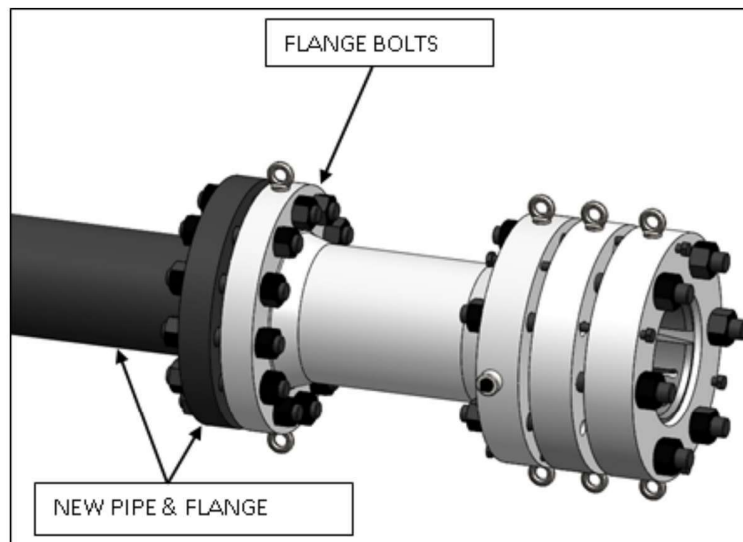

Figure 7
- a) Installing a riser connection, a blind flange, or a valve. Bolt the flanged end of the new piece of equipment to the Seal Flange Section of the Power+Grip Connector as shown in Figure 7. Torque the flange bolts uniformly to the appropriate torque using the bolting pattern defined in ASME PCC-1.